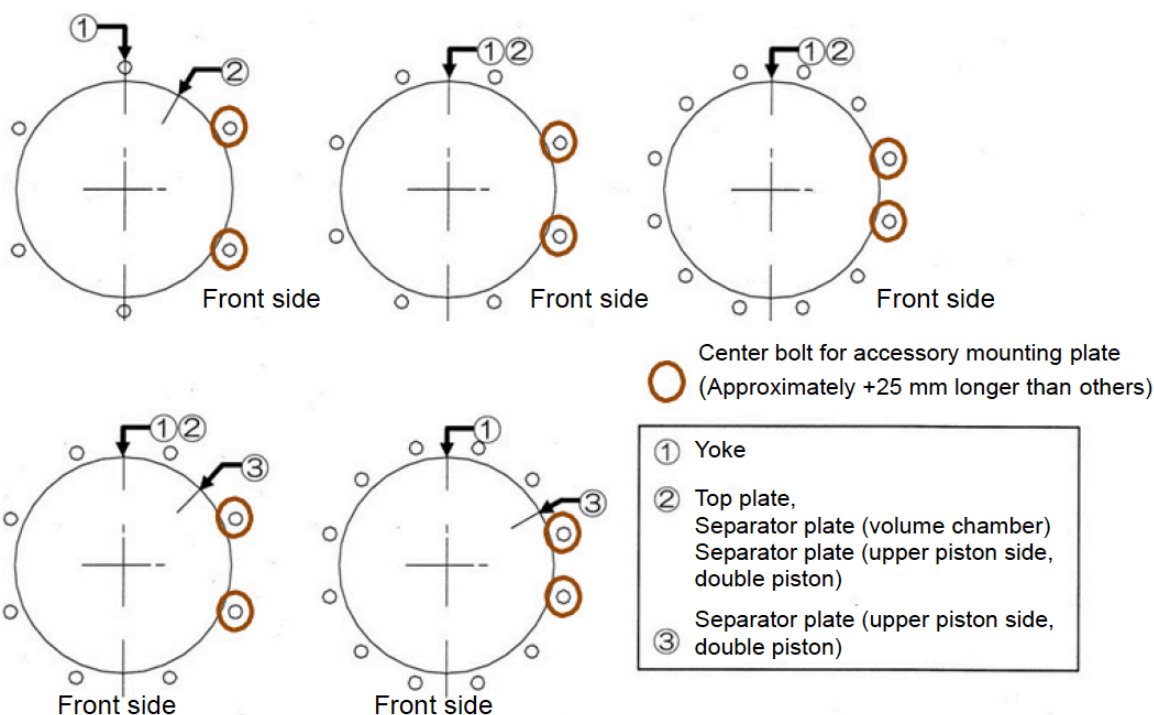

Figure 19 - Center bolt Positioning
- Ensure the positions of the air connections are correct. Insert the center bolts into the holes of the top plate and yoke. Mount the spring washers and nuts and tighten them lightly by hand. Mount the spring washers and nuts to the bottom side of the yoke by hand. Ensure that the position of center bolts (approximately +25 mm longer than others) for the accessory mounting plate, if equipped, complies with Figure 19.